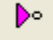

**Figure 84: Editing Input/Output Channel Attributes**
5. To configure an XP input/output channel, right-click the channel and select Edit. A list of attributes appears (Figure 84).